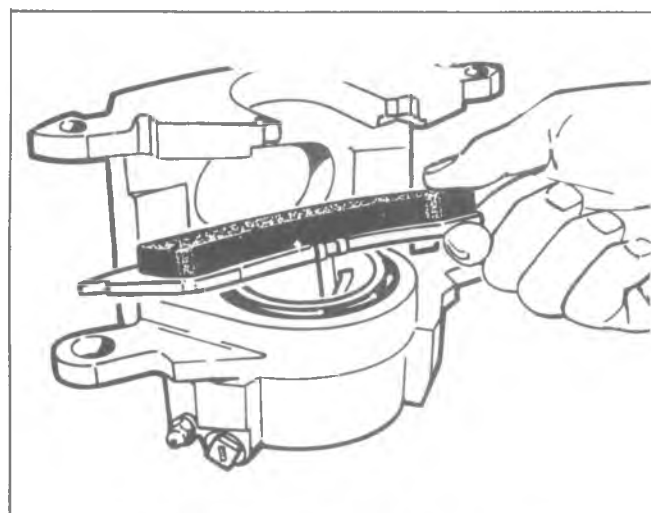

Fig. 5-26-Inserting Shoe Support Spring
3. Install the shoe support spring by replacing the single tang end of the spring over the notch in the center of the edge of the shoe. Then press the two tangs at the spring end of the inboard shoe spring over the bottom edge of the shoe so that they engage the shoe securely, as shown in Figure 5-26.